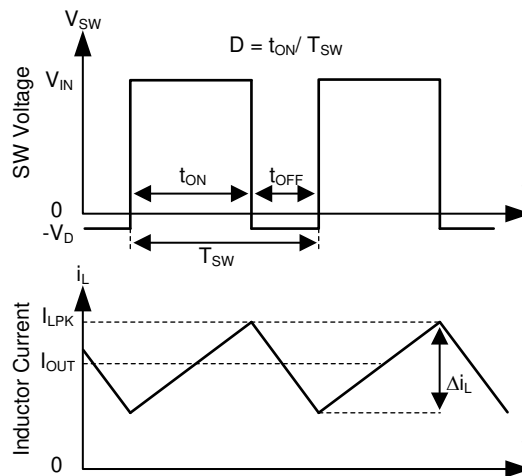

図 8-1. SW Node and Inductor Current Waveforms in Continuous Conduction Mode (CCM)
The following operating description of the LMR23630 refers to セクション 8.2 and to the waveforms in 図 8-1. The LMR23630 is a step-down synchronous buck regulator with integrated high-side (HS) and low-side (LS) switches (synchronous rectifier). The LMR23630 supplies a regulated output voltage by turning on the HS and LS NMOS switches with controlled duty cycle. During high-side switch ON-time, the SW pin voltage swings up to approximately V_{IN} , and the inductor current i_L increase with linear slope $(V_{IN} - V_{OUT}) / L$. When the HS switch is turned off by the control logic, the LS switch is turned on after an anti-shoot-through dead time. Inductor current discharges through the LS switch with a slope of $-V_{OUT} / L$. The control parameter of a buck converter is defined as duty cycle $D = t_{ON} / T_{SW}$, where t_{ON} is the high-side switch ON-time and T_{SW} is the switching period. The regulator control loop maintains a constant output voltage by adjusting the duty cycle D . In an ideal buck converter, where losses are ignored, D is proportional to the output voltage and inversely proportional to the input voltage: $D = V_{OUT} / V_{IN}$.